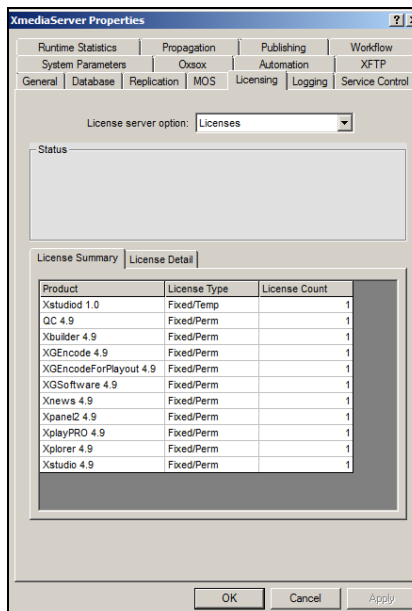

Figure 6-4. The server's licenses are displayed on the Xmedia Server Control Panel's Licensing page
3. Select the **LICENSING** tab (figure 6-4).